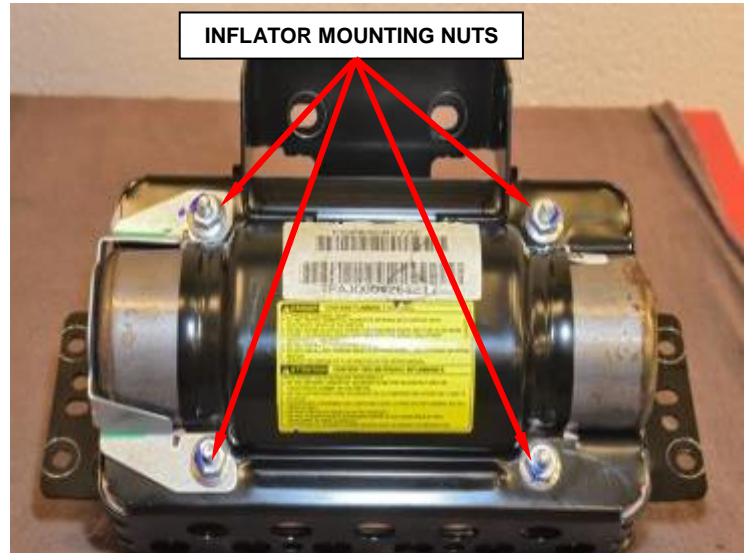

Figure 34 – Mounting Nuts
- b. Remove and **discard** the four inflator mounting nuts (Figure 34).
- n. Install the four **NEW** mounting nuts to the airbag housing and tighten to 53 in. lbs. (6 N·m) (Figure 34).